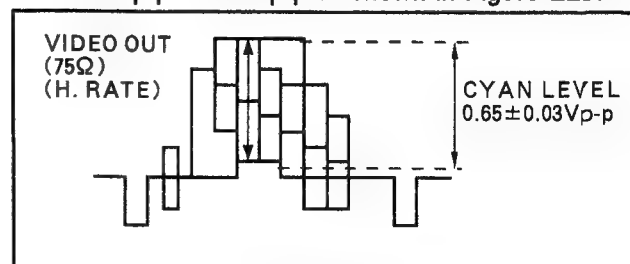

Figure E20
4. Adjust VR3304 so that the cyan level becomes 0.65Vp-p \pm 0.03Vp-p as shown in Figure E20.